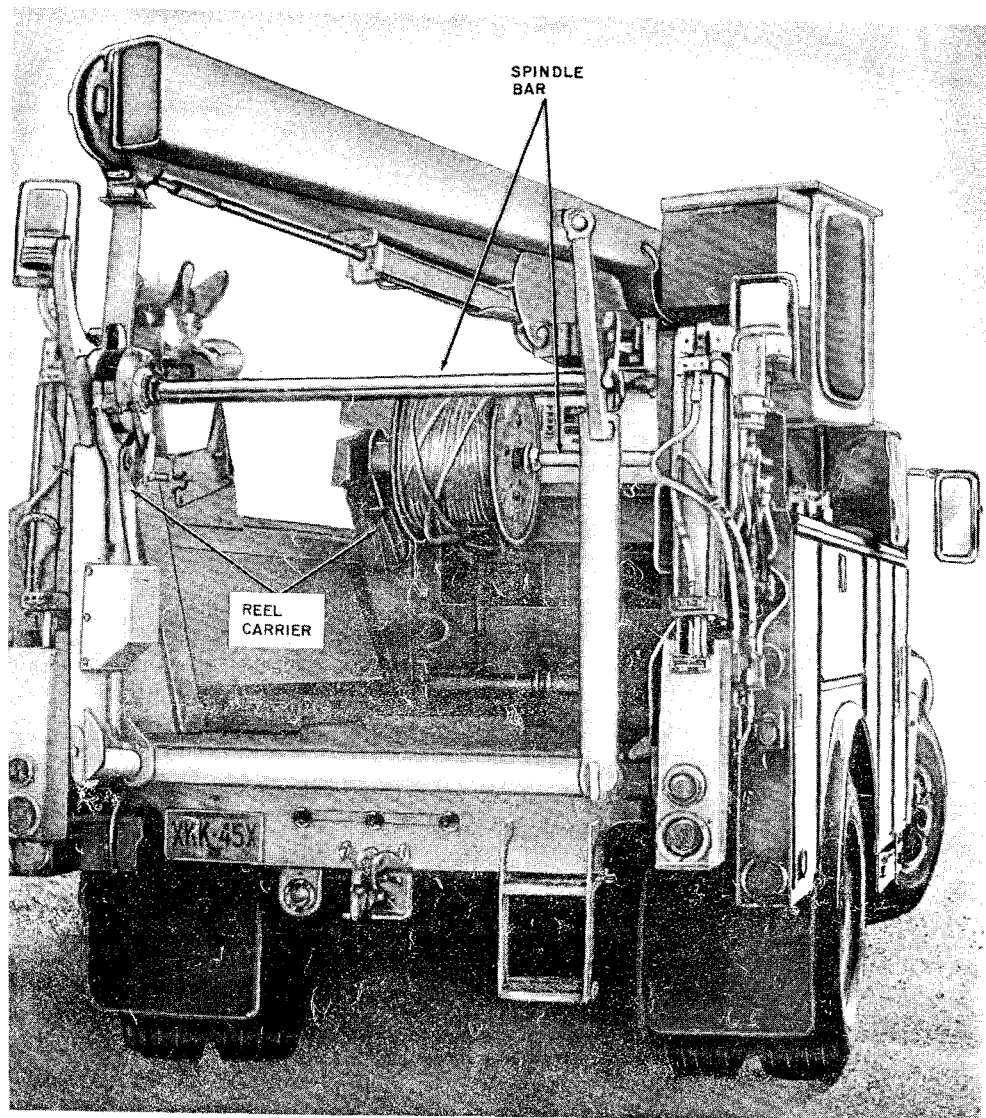

Fig. 6—Reel Loader and Reel Carrier
2.08 A hydraulically operated reel carrier, located in the forward portion of the truck body, is used with the loading bar for transporting reels in the truck or with the brake-equipped spindle bar for paying out strand. The reel loader and reel carrier are shown in Fig. 6.